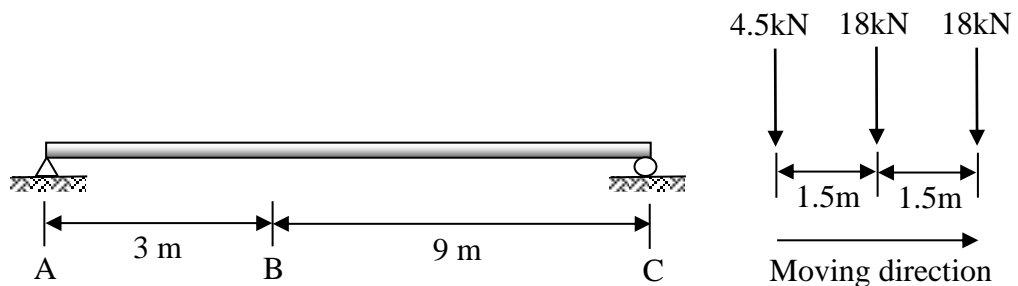

Figure 2(a) / Rajah 2(a)
- (a) A simply supported beam is subjected to a series of moving load as shown in Figure 2(a). By using Influence Line Diagram, analyse the maximum shear force and bending moment at point B due to series of loads moving from A to C.